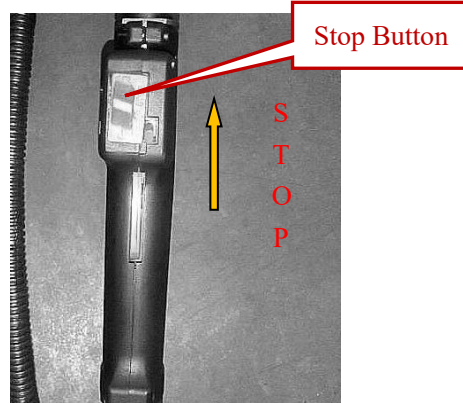

Fig 5
7.2 Pull Stop Button to the position of flameout. See the position of Stop Button in Fig.5.